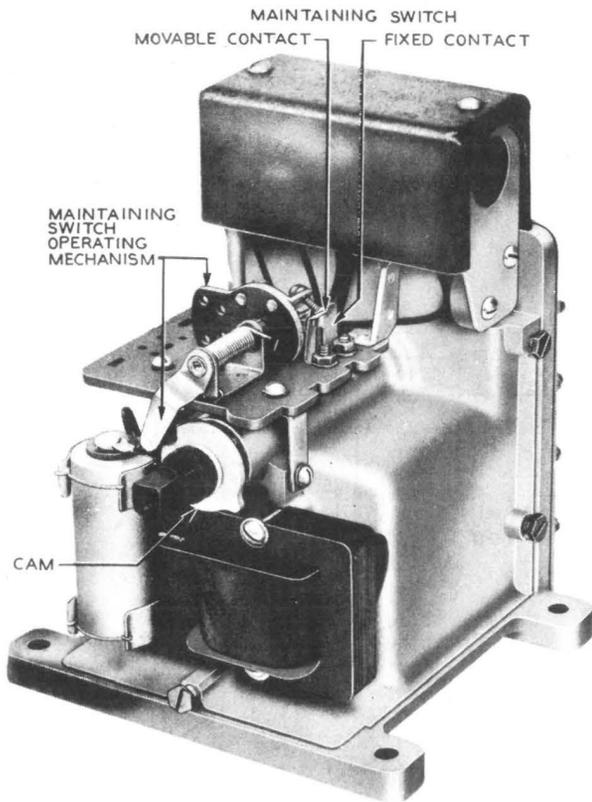

Fig. 3 - M204A-type Shutter Motor - Cover Removed
1.08 The M204A-type shutter motor (see Fig. 3) is used to operate a shutter which is intended to remain in a fully opened or a fully